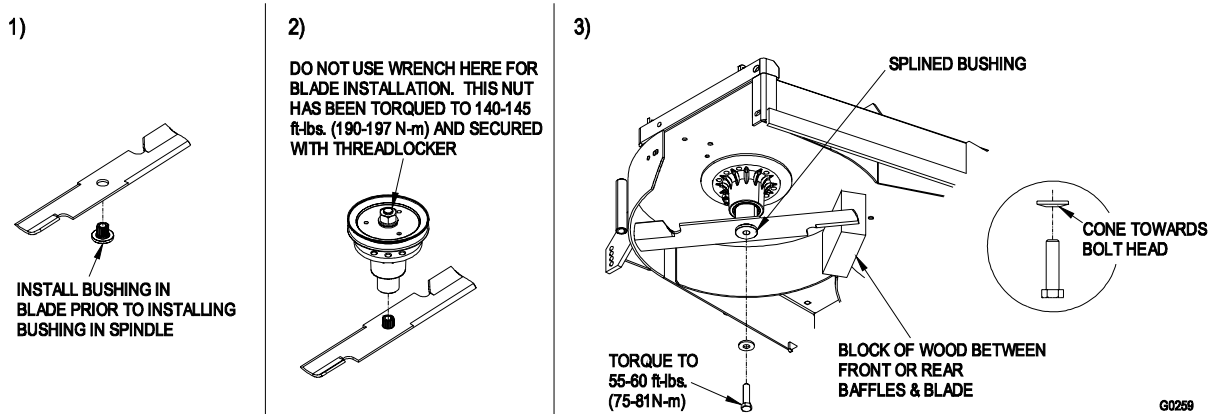

FIGURE 7
- d) Re-install the blades (if they were removed) in the following order (See Figure 7):